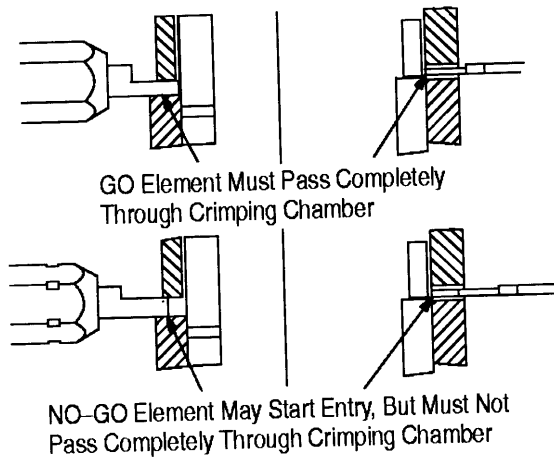

Figure 5
This inspection requires the use of plug gages conforming to the dimensions provided in Figure 5. AMP does not manufacture or market these gages. To gage the crimping chamber, proceed as follows:
must pass completely through the crimping chamber. See Figure 5.
4. Align the NO-GO element and try to insert it straight into the same crimping chamber. The NO-GO element may start entry, but must not pass completely through the crimping chamber. See Figure 5.
- Replaced Figure 5 with Section 5